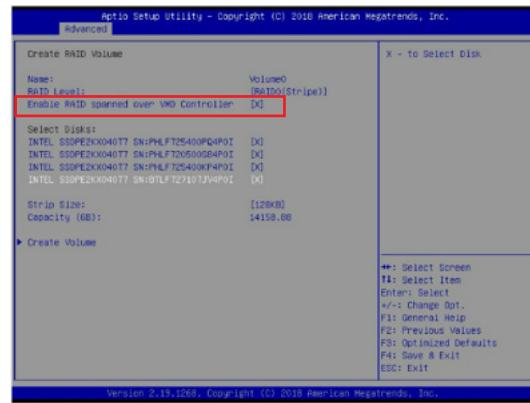

Figure G-4. Created Volume with enabling RAID spanned over VMD controller
8. Switch to **Advanced > Intel(R) Virtual RAID on CPU > All Intel VMD Controllers > Create RAID Volume.**
11. If cross-controller RAID is required, select **Enable RAID spanned over VMD Controller** as shown in Figure G-4.